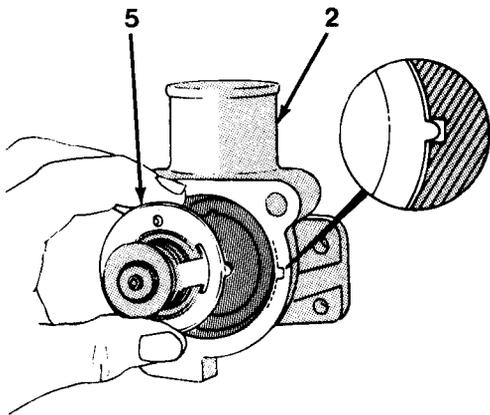

Figure 9-4
- Install thermostat (5) in thermostat housing (2, Figure 9-4) aligning tang up with notch.